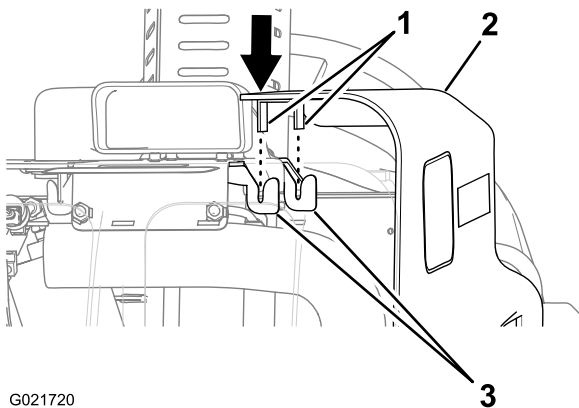

Figure 37
2. Align the tabs at the top of the side panel with the receiver brackets on the machine (Figure 37).